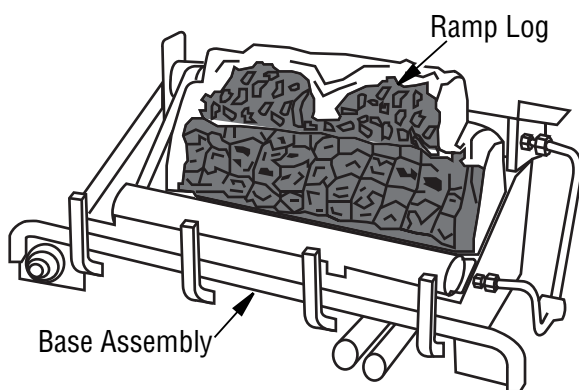

Figure 24 - Installing Log Set
1. Place fiber ramp-log in center on chassis as shown in **Figure 24**. The fiber ramp-log can be identified by its shape and much lighter weight when compared to the other logs.